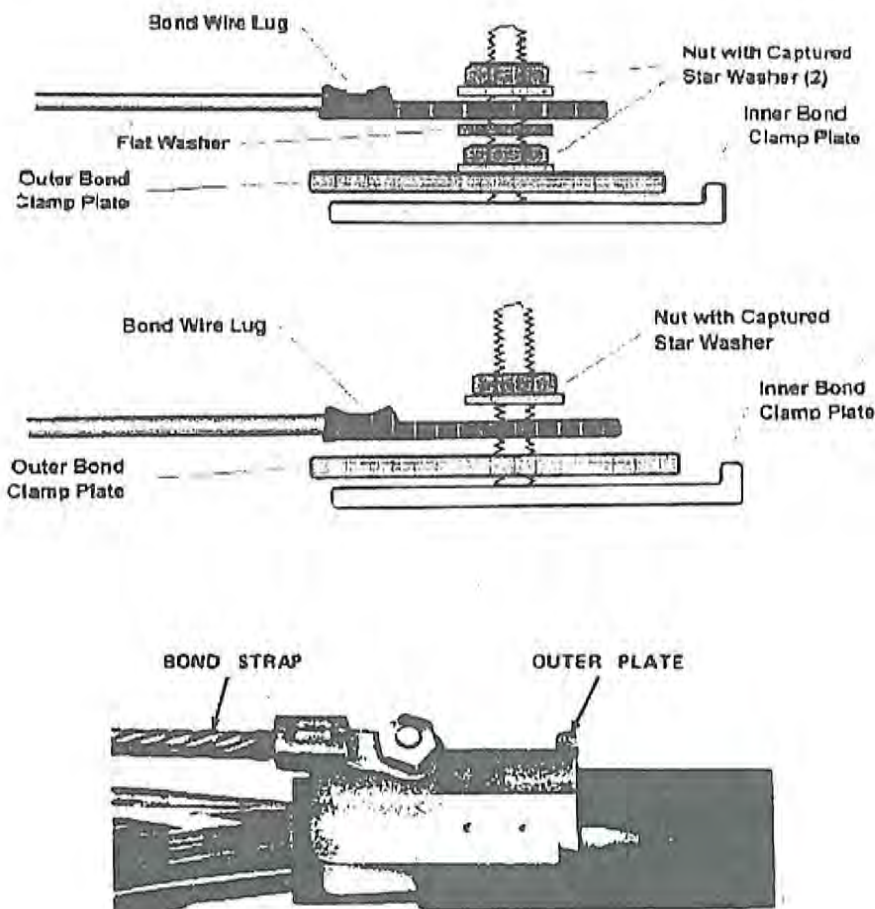

Figure 10 - Attaching Terminated Bond Strap to D Bond Clamp
4.03 Attach the terminal of the bond strap to the stud of a B, Mini B, Canadian Mini or D bond clamp using either one hex nut with a captured external tooth lock washer or two hex nuts with captured external tooth lock washers and a flat washer (Figure 10) in accordance with local preference. The preferred assembly method uses two nuts and a flat washer but laboratory studies and experience has shown that, if the nuts are tightened sufficiently (10 to 40 inch-pounds torque), the resultant installation will be satisfactory independent of the connection hardware